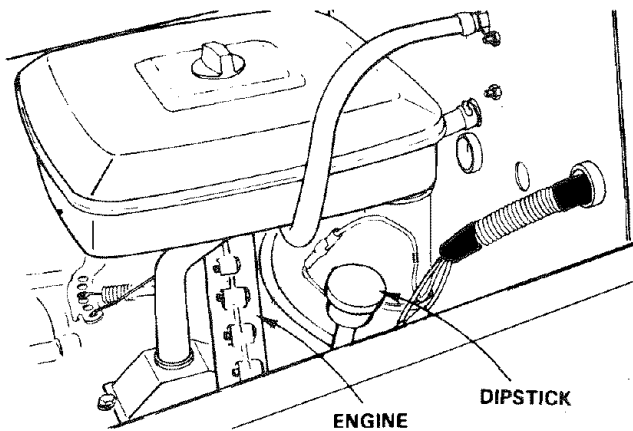

FIGURE 12
- This engine has been shipped filled with summer weight oil (for cold weather operation see Chart page 16). Check engine oil level with tractor on level ground. Wipe dipstick (Fig. 12) clean, screw it in tight for a few seconds, remove and read oil level. If necessary, add oil until "FULL" mark is reached.